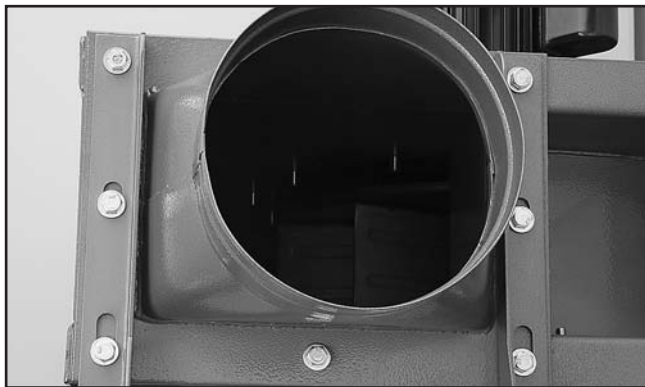

Figure 18. Model G0440 outlet port and filter L-braces installed.
11. Attach the outlet port and filter L-braces to the blower housing with the outlet gasket between the outlet port and the housing, as shown in **Figures 18–19**, using (8) $\frac{5}{16}$ "-18 x 1" hex bolts, (16) $\frac{5}{16}$ " flat washers, and (8) $\frac{5}{16}$ "-18 hex nuts.